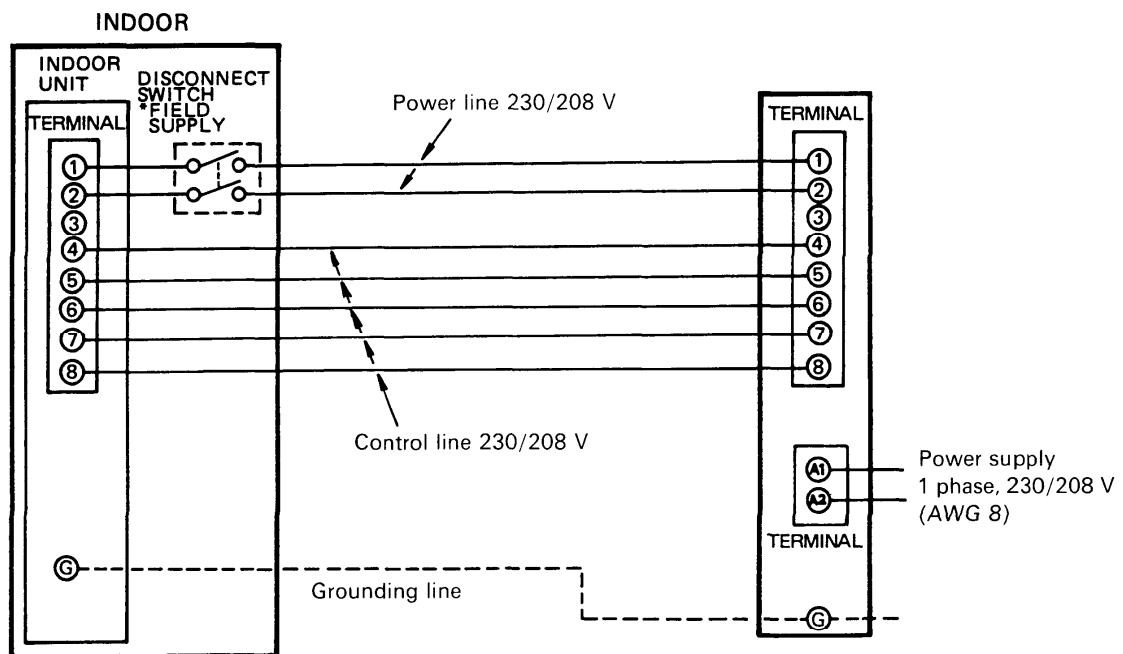

Fig. 8
- Connect interunit control line and power line per drawing on inside of the panel "C". Fig. 8